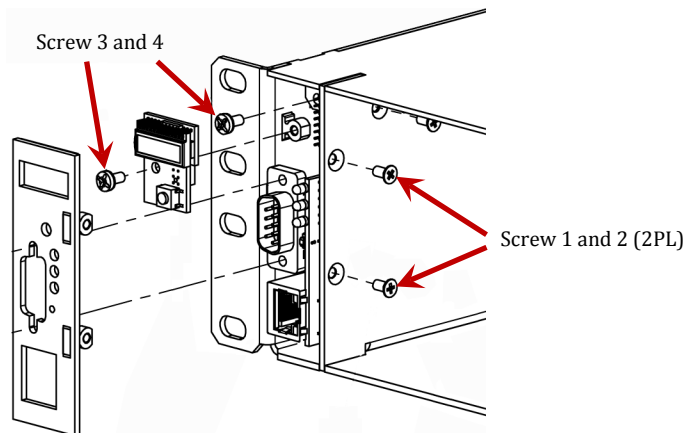

Figure 12—Showing CXCI (original design) replacement detail
8. Remove four (4) mounting screws from the CXCI. The first two screws will release the front panel from the controller circuit board to expose the third screw that releases the LCD circuit board. Carefully remove the LCD board to expose the fourth and final screw to release the remains of the CXCI (Figure 12).